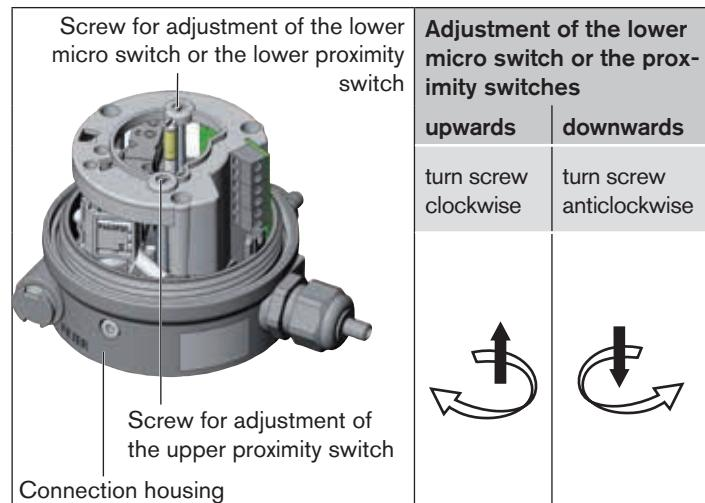

Fig. 21: Adjustment of the micro switch and the proximity switches
- Adjust the lower micro switch or the proximity switches via the adjusting screw(s) (see "Fig. 21").